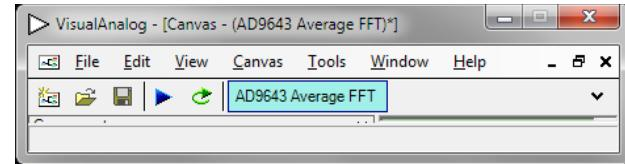

Figure 6. VisualAnalog Window Toolbar, Collapsed Display
4. Detailed instructions for changing the features and capture settings can be found in the AN-905 Application Note, *VisualAnalog Converter Evaluation Tool Version 1.0 User Manual*. After the changes are made to the capture settings, click the **Collapse Display** button (see Figure 6).